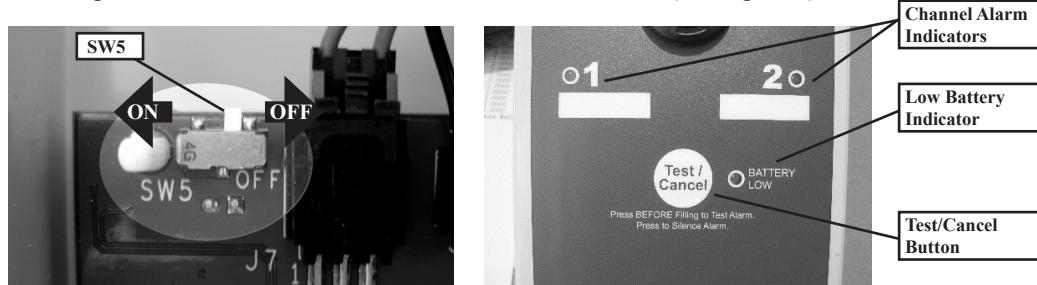

Fig. 1 Power Switch (SW5) ... Channel Alarm Indicators, Battery Low Indicator and Test/Cancel Button on the 918D
- Turn on** the power switch, SW5 (see Figure 1).
- Press and hold** the “Test/Cancel” button for more than five seconds while listening to the Audible Alarm and observing the Channel Alarm and BATTERY LOW Indicators (see Figure 1).
- e. Turn off the power switch, SW5 before proceeding (see Figure 1).
- a. **Turn OFF the power (DEFAULT):** To turn OFF to the 918 Series Alarm, place SW5 in the OFF position. (see Figure 1)
- b. **Turn ON the Power:** To turn ON the power to the 918 Series Alarm, place SW5 in the ON position (see Figure 1)
- a. Press and hold the “Test/Cancel” button for more than 5 seconds while listening to the Audible Alarm and observing the Channel Alarm Indicator(s) and BATTERY LOW Indicators (see Figure 1).
- b. If an overfill condition already exists when the “Test/Cancel” button is pressed, the Channel Alarm Indicator(s) will illuminate prior to the sounding of the Audible Alarm associated with the “Test” mode. (see Figure 1)